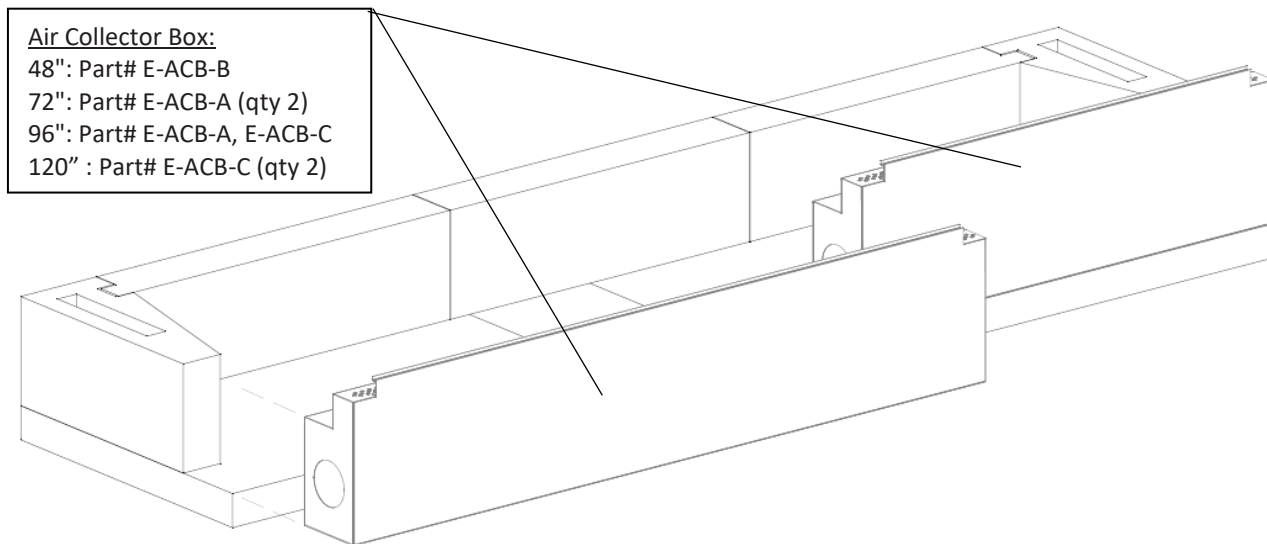

FIGURE 11
3) The Air Collector Box Assemblies will be placed on top of the base plate(s) as shown (Figure 11).